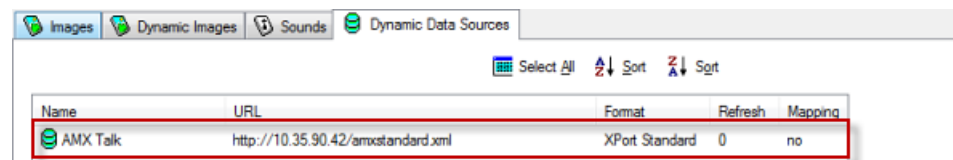

FIG. 189 Resource Manager - Dynamic Data Sources tab indicating "amxstandard.xml" as the data source
8. Click **OK** to save changes and close this dialog. The new data source is indicated in the Resource Manager - Dynamic Data Sources tab (FIG. 189):